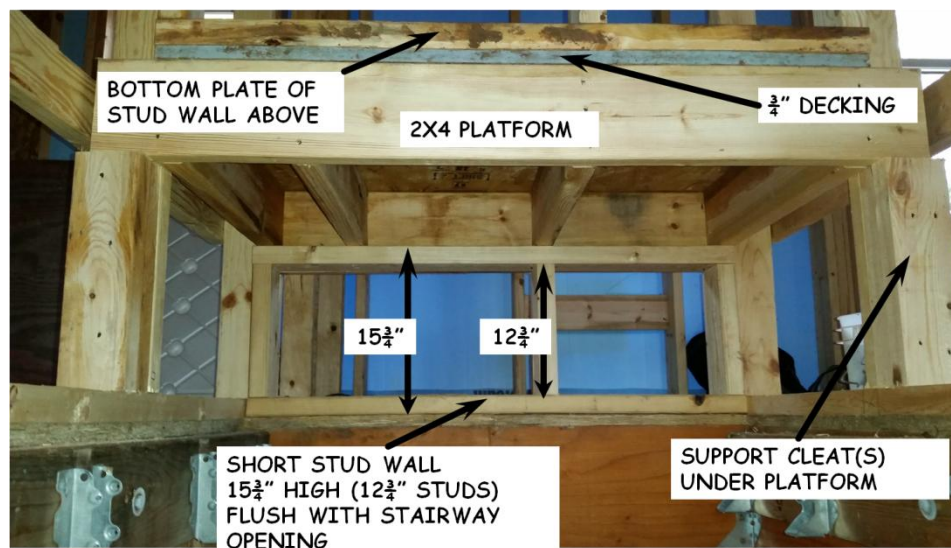
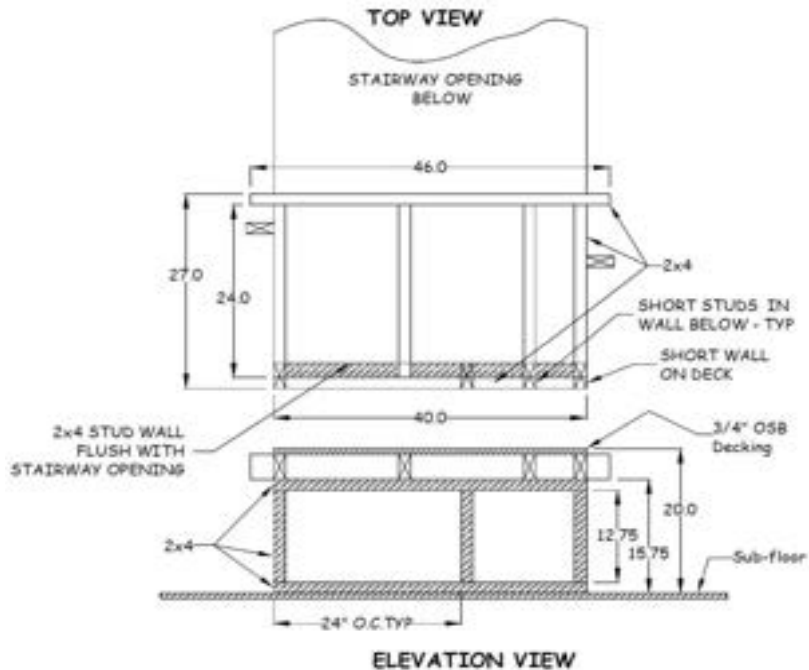

Figure 6-9. Closet Platform.
Figure 6-10. Platform for Closet Over Stairway.
4. Build a 27"x40" platform with 2x4 joists (16" o.c.) and $\frac{3}{4}$ " OSB decking as shown in Figure 6-9. The stairway opening is typically 40" wide. Adjust the platform width as necessary to fit between the walls. The 2x4 that bridges the stairway opening on the cantilevered end should be 46" long so that it can be firmly supported with blocking or a stud inside the adjoining walls. Check the location of the wall studs to be sure that the 2x4 will not interfere on either side (see Figure 6-10). Once the platform is in place, with one end sitting on the short, 2x4 stud wall at the end of the opening, the other end will extend 24" over the opening. Adjust if necessary so long as the platform does not extend more than 24".